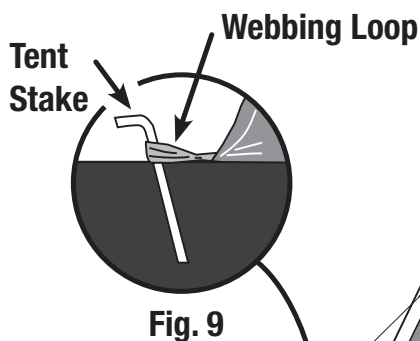

Fig. 9
- Secure tent by driving stakes through the webbing loops sewn to the tent base. (Fig. 9)